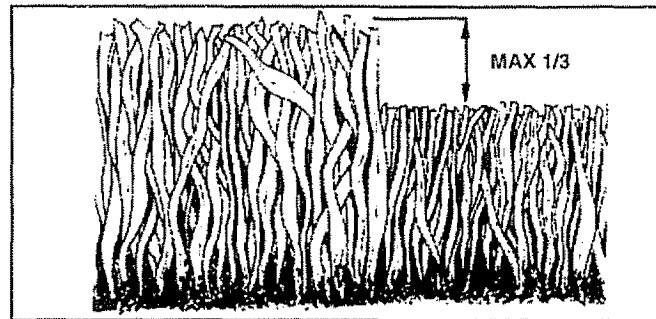

FIG. 9B
- For best results, adjust the mower cutting height so that the mower cuts off only the top one-third of the grass blades (See Fig. 9B). For extremely heavy mulching, reduce your width of cut on each pass and mow slowly.